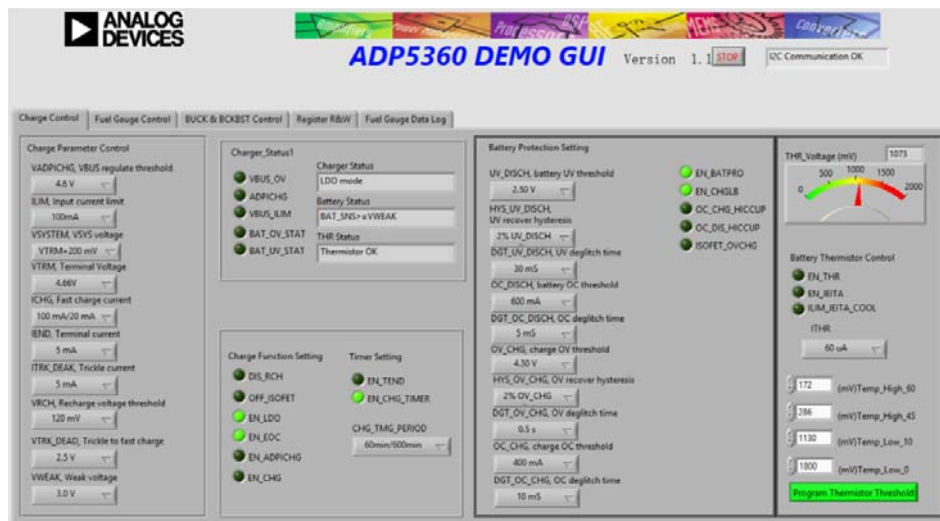

Figure 10. ADP5360 GUI Software, **Charge Control** Tab
The software is now ready to use, and the window shown in Figure 10 appears. The GUI software automatically reads the content of the registers and updates the status of the registers in real time.
2. The resistance in the thermistor (THR) input corresponds to a battery temperature between 10°C and 45°C. If the THR resistance does correspond with the battery temperature, the **THR Status**, located in the **Charger_Status1** section (see Figure 10), reads **Thermistor OK**. If not, adjust the R4 variation resistor using a screwdriver to achieve the **Thermistor OK** message in **THR Status**.
3. Click **EN_CHG** in the **Charge Function Setting** section shown in Figure 10 to set the EN_CHG bit high (**EN_CHG** lights up in the GUI) to start the charger.
Either set the ENCHG jumper to the high side or set the EN_CHG bit (see Figure 10) high in the GUI to enable the charger.
2. Use the **ILIM, Input current limit** option and **ICHG, Fast charge current** option in the **Charge Parameter Control** section to program the charge current higher than the input current-limit value (see Figure 10).
3. Measure the VBUS node input current by reading the input supply current in the dc power supply and check whether the **VBUS_ILIM** indicator is lit in the **Charger_Status1** section of the **Charge Control** tab (see Figure 10).
- The V_{ISOB} (the voltage at the ISOB node) level is close to the **VTRM, Termination Voltage** value in the **Charge Parameter Control** box (see Figure 10). The default value is 4.16 V. The device is operating in constant voltage mode upon power-up.
2. Set the termination voltage to 4.2 V in the **VTRM, Terminal Voltage** box in the **Charge Parameter Control** section (see Figure 10).
3. Increase the battery voltage in the battery simulator, until the **Charger Status** box under the **Charger_Status1** section in the GUI shows **Fast Charge (CV Mode)** and the charge current, measured in the battery simulator, drops lower than the charge current setting (see Figure 10).